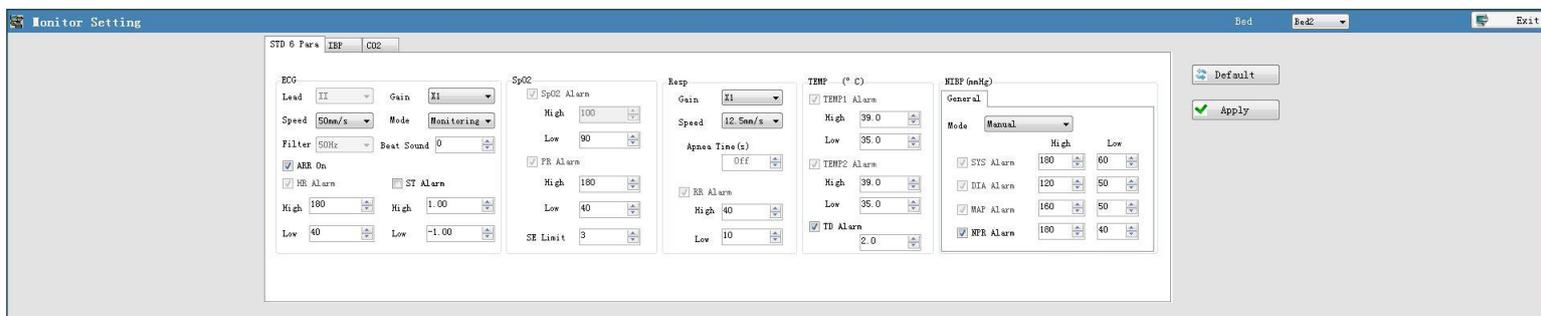
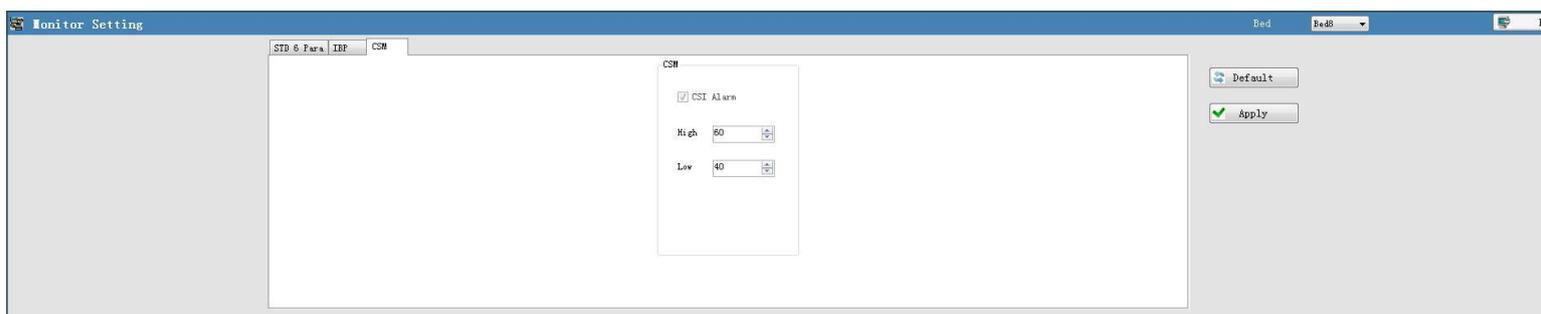

Figure 5.6B (Bedside) Monitor setting (standard 6 parameters)----for the communication protocol is V3.2 or higher
Figure 5.6E (Bedside) Monitor setting (CSM)----for the communication protocol is V3.2 or higher CSM (optional)
2) When the version of communication protocol between central server and bedside monitor is selected as V3.2 or higher, then there are several tabs in monitor setting window, including standard 6 parameters (ECG, SpO₂, PR, RESP, TEMP and NIBP), IBP, CO₂(optional) and CSM (optional), as shown in figure 5.6B,5.6C, 5.6D and figure 5.6E.